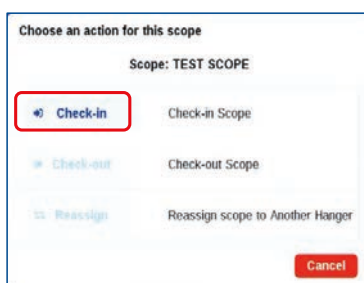
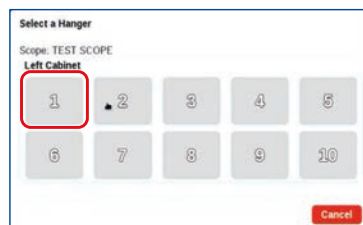

Fig. 73
Fig. 74
3. Press the Check-In button (Fig. 73), and then select an available hanger (Gray Icons) when prompted to Check in the required Scope (Fig. 74).